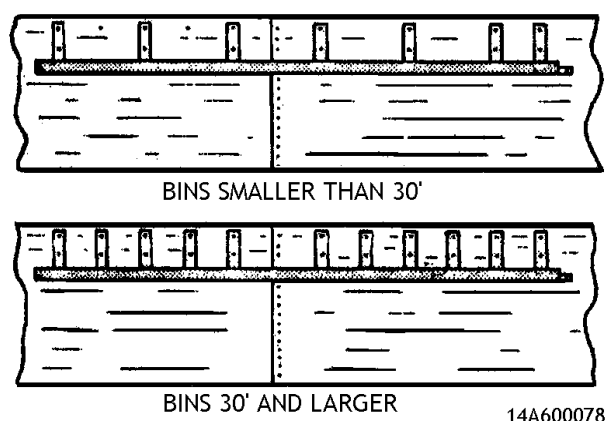
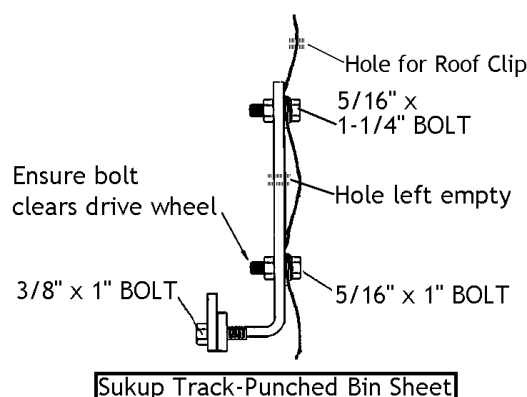
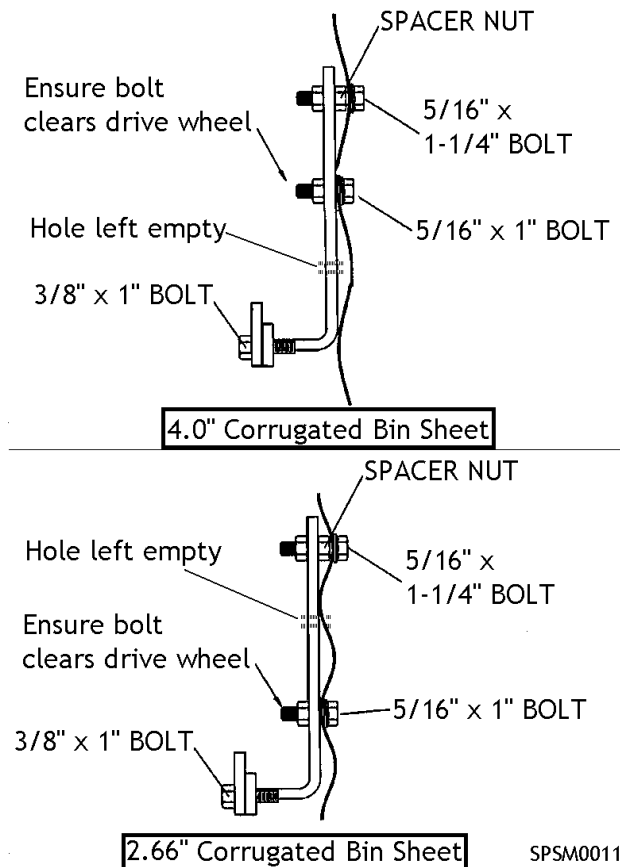

Figure 3 - Head-On View of Track Bracket Placement
Figure 4 - Side View of Track Mounted on Sukup Bin Sheet Punched for Track
Figure 6 - Side View of Track Mounted on Sukup Bin Sheets Not Punched for Track and Sheets from Other Companies
- A1 For Sukup bins smaller than 30', insert 5/16" x 1-1/4" bolts in top hole of every other pair of bolt holes for track around top of bin (approximately 18" spacing). For Sukup bins 30' and larger, place bolts in top hole of every pair of bolt holes (approximately 9" spacing) except those at bin wall seam. **Figure 3, Figure 4.**
- A2 Mount 1 length of track with bolts through top holes on track brackets. **Figure 3, Figure 4.**
- A2.1 Note: On bins 30' and larger with a double-bracketed track, a gap has been left to prevent interference between seam bolts and track brackets. Install first section of track with seam in place of missing bracket. **Figure 3.**
- A4 Place 5/16" nuts onto bolts through track bracket. Do **not** tighten at this time. **Figure 4.**
- B1 For bins smaller than 30', insert 5/16" x 1-1/4" bolts in single ring of bolt holes around top of bin (approximately 18" spacing). For bins 30' and larger, place bolts in every bolt hole (approximately 9" spacing) except those at bin wall seam. **Figure 3.**
- B2 Tighten 5/16" spacer nuts onto these bolts. **Figure 6.**
- B3 Mount first segment of track over bolts and screw on a second 5/16" nut. **Figure 3, Figure 6.**
- B3.1 *Note:* On bins 30' and larger with a double-bracketed track, a gap has been left to prevent interference between vertical seam on sidewall sheets and track brackets. Install first section of track with bin wall seam in place of missing bracket. **Figure 3.**
- B5 After all track sections are in place, drill second, lower bolt holes through bin sheets using track brackets as pattern. **Figure 6.**
- B6.1 *Note:* Leave unused track bracket holes empty. **Figure 6.**
- C2.1 When drilling 4.0" Cor. sidewall sheets, use top and bottom track bracket holes as guide as shown in **Figure 4.**
- C3 Insert 5/16" x 1-1/4" bolt through top bolt holes. **Figure 6.**
- C4 Mount first segment of track over bolts and screw on 5/16" nuts. **Figure 6.**
- C5 Insert 5/16" x 1" bolts in lower holes of track bracket and add 5/16" nuts. Tighten using 1/2" wrench. **Figure 6.**
- C5.1 *Note:* Leave unused track bracket holes empty. **Figure 6.**